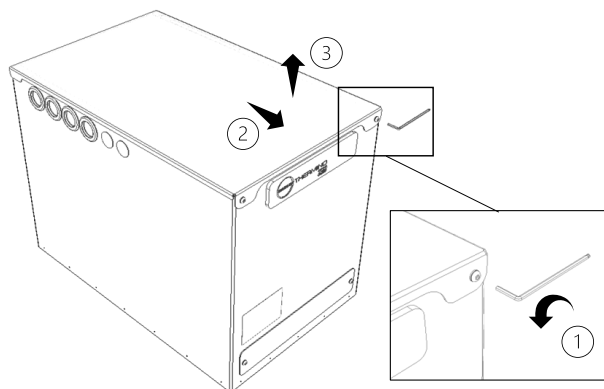

Figure 6 - Lid Removal of Thermino Heat Battery
- Remove lid. The lid is secured by 2 x M5 button head cap screws at the front and two locating pins at the back (Figure 6):
- (1) Remove 2 x M5 button head cap screws using 3mm hex head and set aside.
- (2) Slide the lid forward, (3) then lift the lid up and set aside.